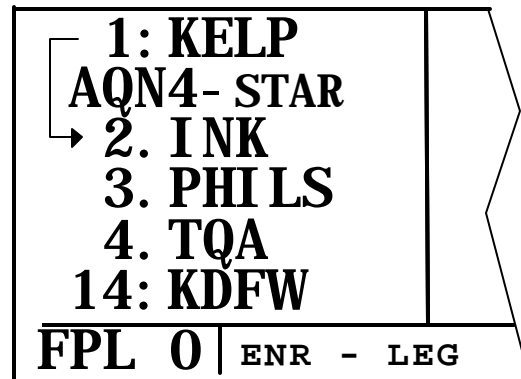

Figure 3D-73. SID/STAR Procedure
c. Editing a SID or a STAR. SID and STAR procedures have procedure headers. It is possible to use these headers to delete and change the procedure, as is done with approach procedures. Refer to Figure 3D-73. Unlike approaches, it is possible to add and delete waypoints in SID and STAR procedures.